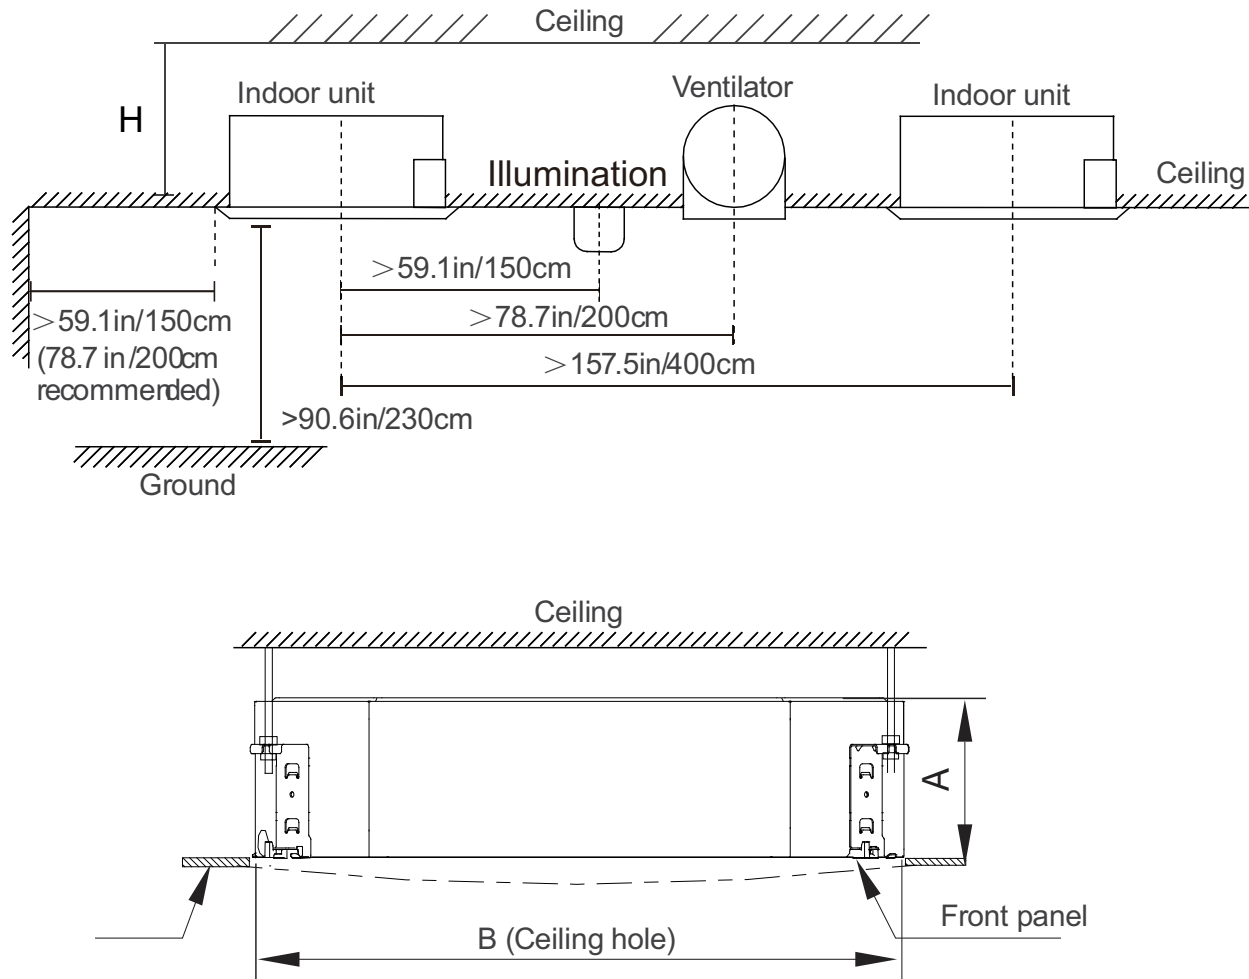

Fig. 3 —Recommended Distance Between Indoor Unit and Ceiling
2. Confirm various sizes and the recommended distances between the indoor unit and the ceiling. See Fig. 3.